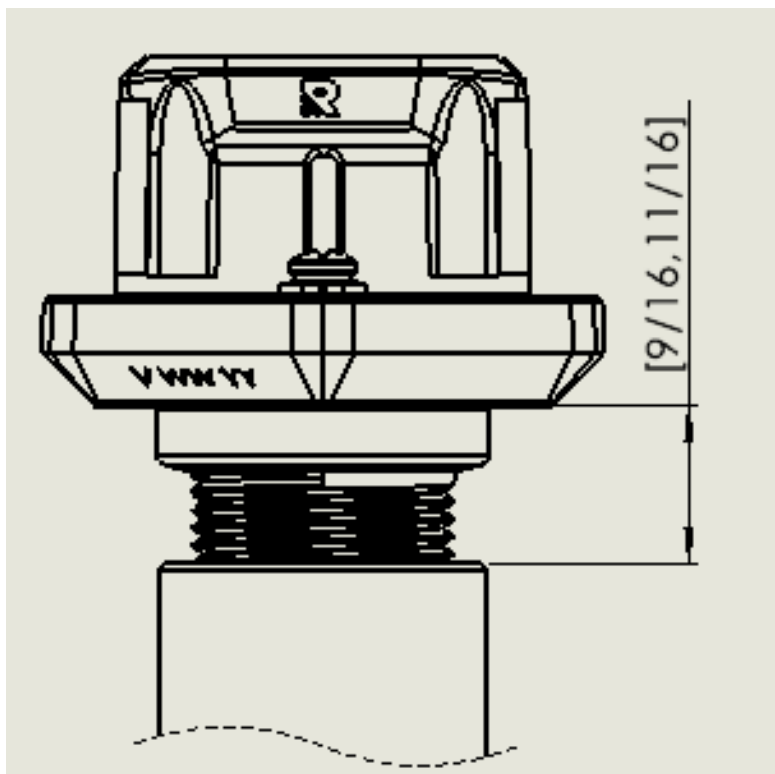

Figure 4: Installed Gap Between Probe Flange at Hex Bottom and Top of Spud
3. Install head to have a final engagement between 9/16" and 11/16" from the top of the spud and the bottom of the hex as pictured in Figure 4. This engagement allows for a range of between 5 and 7 engaged threads respectively. The minimum torque to be applied is 70 pound-feet.